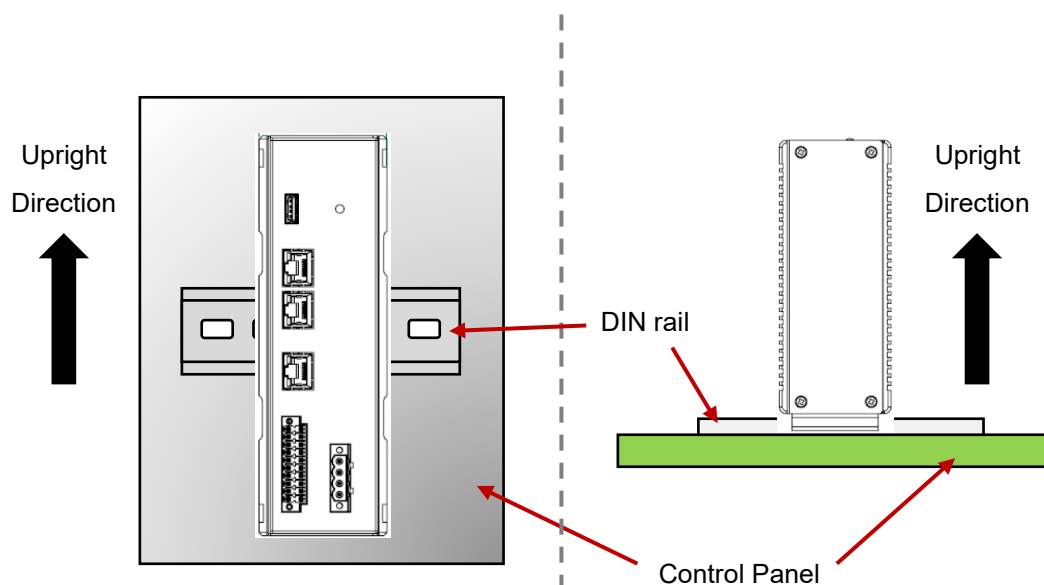

Figure 2.3.2 Recommended mounting orientation
- Step 3. Mount the product on the industrial control panel with the recommended orientation, as Figure 2.3.2 shows.